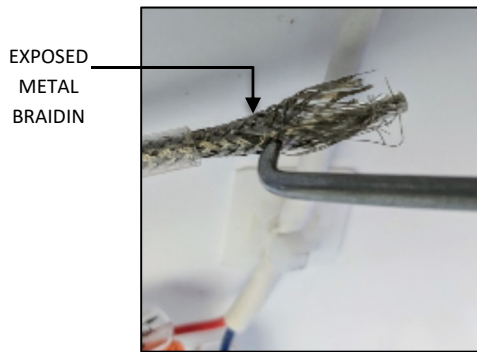
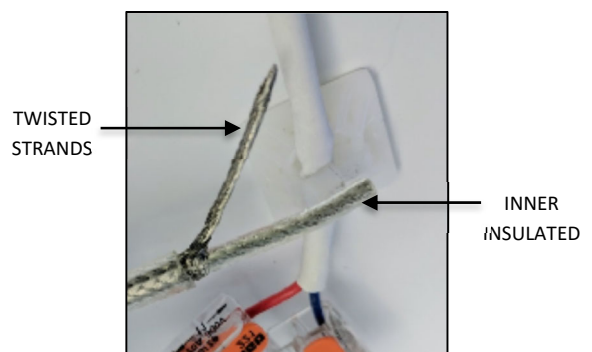

FIG. 26
FIG. 27
- Using a small pointed object, begin unweaving the exposed metal braiding as shown in FIG. 26 below. Position the unwoven metal strands on one side of the inner insulated wire and twist the individual strands together as shown in FIG. 27 below.